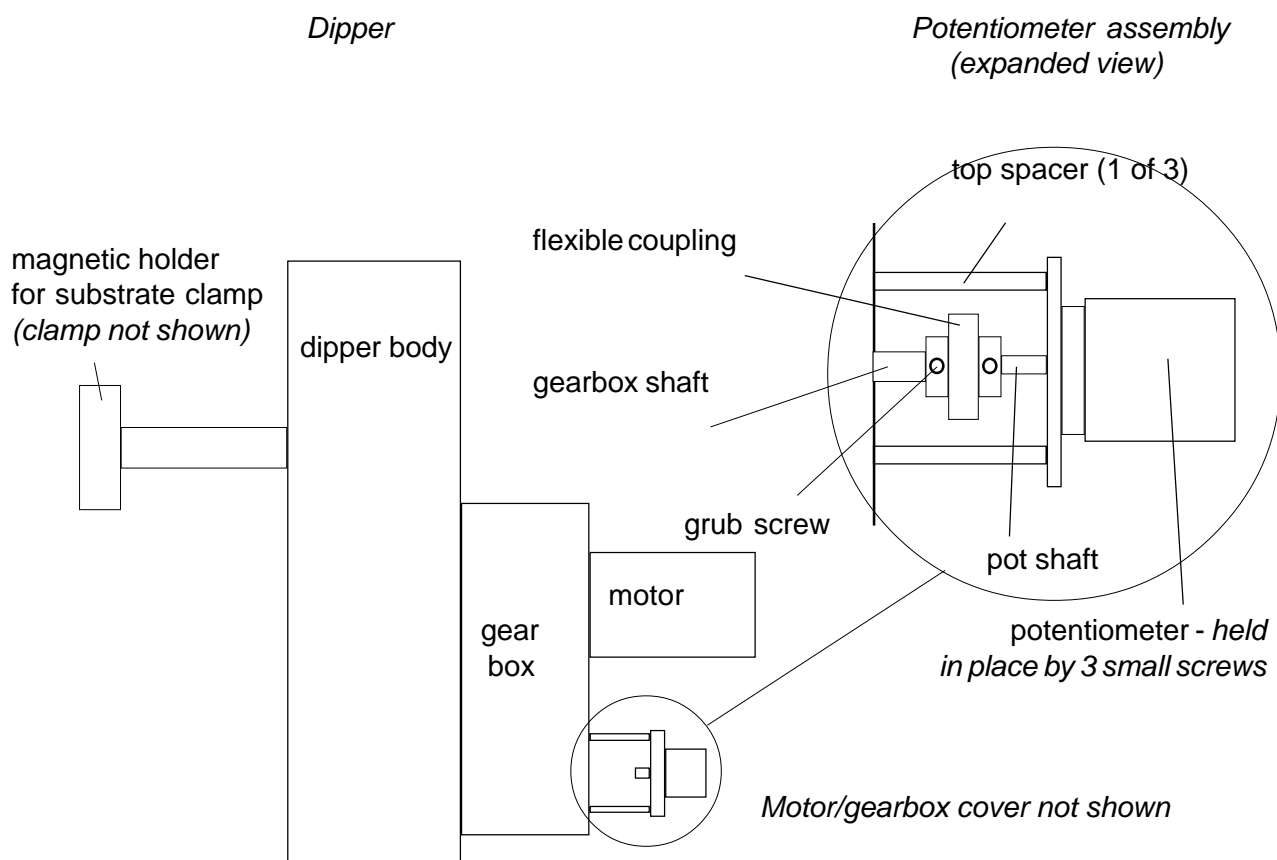

Figure A3: Illustration of Dipper, Model D1L-75
2. Identify the flexible coupling which connects the pot to the gearbox, Figure A3. This has 4 little grub screws - 2 pinching on the pot shaft and 2 on the gearbox shaft.